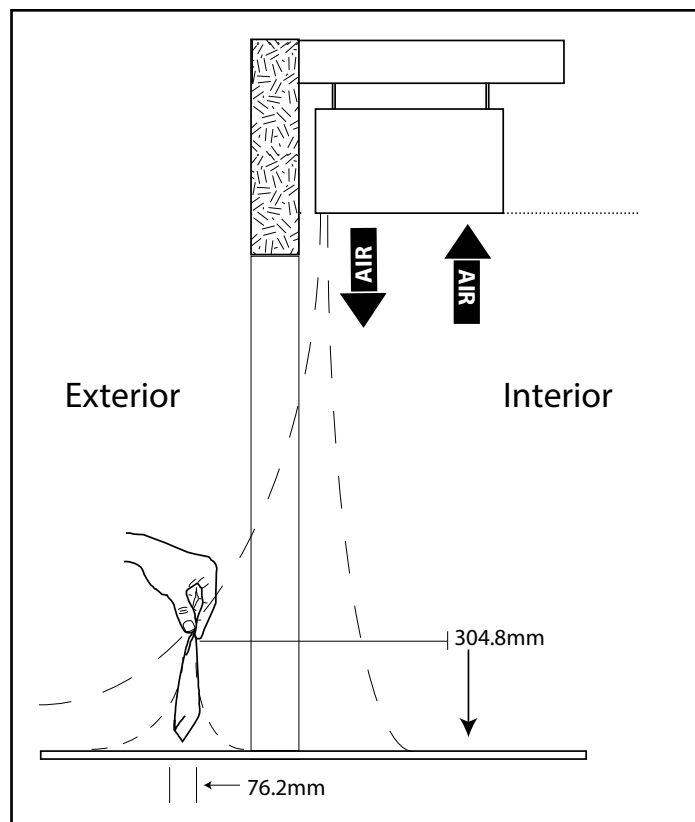

Figure 6 - Air Stream Adjustment
2. Find the air stream split location. Hold a handkerchief by its corners, approximately 304mm above the floor. Gently move the handkerchief back and forth in the doorway. Make sure the air is being directed to both the inside and the outside. **See Figure 6.** The split location is indicated where the handkerchief is vertical with minimal or no fluttering.